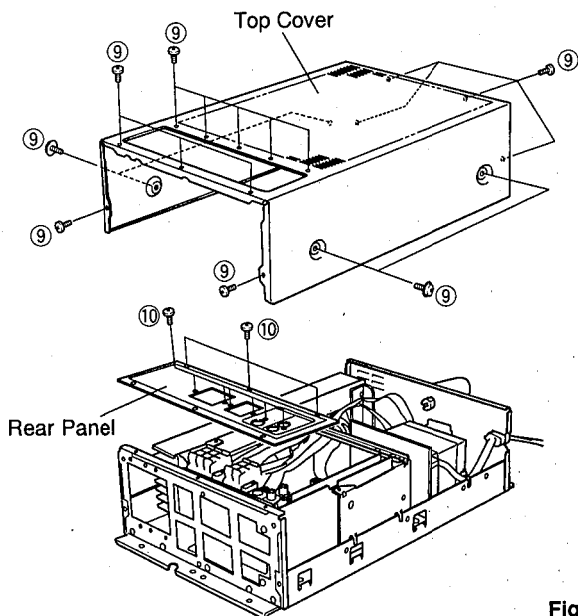

Fig. 7
- a. Remove 18 screws (9) and then remove the Top Cover in Fig. 7.
- b. Remove 9 screws (10) and then remove the Rear Panel in Fig. 7.